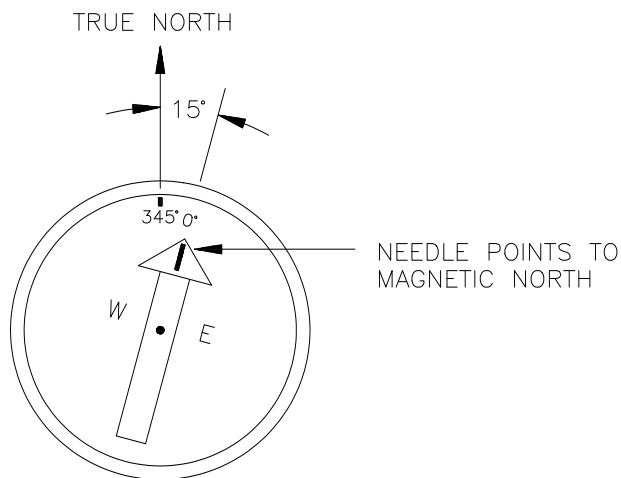
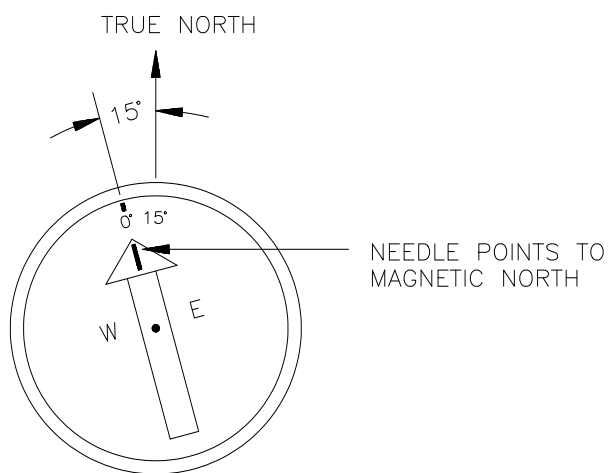

FIGURE 8-2. A declination angle east of True North (positive) is subtracted from 360 (0) degrees to find True North
FIGURE 8-3. A declination angle west of True North (negative) is subtracted from 0 (360) degrees to find True North
Declination angles are always subtracted from the compass reading to find True North. A declination angle east of True North is reported as positive a value and is subtracted from 360 (0) degrees to find True North as shown FIGURE 8-2. A declination angle west of True North is reported as a negative value and is also subtracted from 0 (360) degrees to find True North as shown in FIGURE 8-3. Note that when a negative number is subtracted from a positive number, the resulting arithmetic operation is addition.